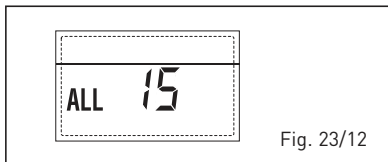

Fig. 23/12
- **ANOMALÍA SONDA EXTERNA "PARPADEANT"** (fig. 23/13)